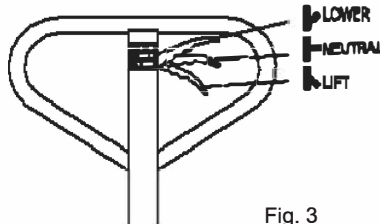

Fig. 3
On the Handle Tube (1) of this pallet jack, you can find the Control Lever (5), which can be placed in three positions (See Fig. 3):